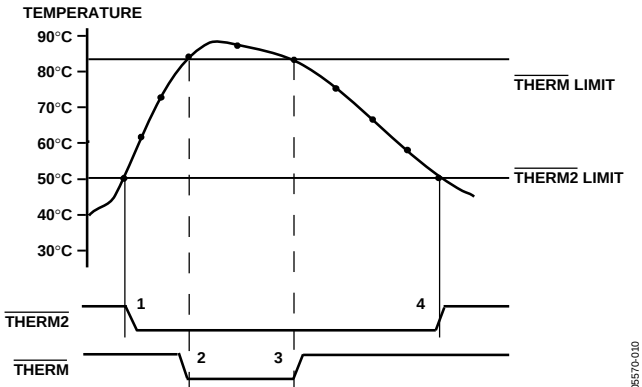

Figure 21. Operation of the  $\overline{\text{THERM}}$  and  $\overline{\text{THERM2}}$  Interrupts
Pin 13 on the ADT7483A can be configured as either an  $\overline{\text{ALERT}}$  output or as an additional  $\overline{\text{THERM}}$  output.  $\overline{\text{THERM2}}$  will assert low when the temperature exceeds the programmed local and/or remote high temperature limits. It is reset in the same manner as  $\overline{\text{THERM1}}$ , and it is not maskable. The programmed hysteresis value also applies to  $\overline{\text{THERM2}}$ . Figure 21 shows how  $\overline{\text{THERM}}$  and  $\overline{\text{THERM2}}$  might operate together to implement two methods of cooling the system. In this example, the  $\overline{\text{THERM2}}$  limits are set lower than the  $\overline{\text{THERM}}$  limits. The  $\overline{\text{THERM2}}$  output can be used to turn on a fan. If the temperature continues to rise and exceeds the  $\overline{\text{THERM}}$  limits, the  $\overline{\text{THERM}}$  output can provide additional cooling by throttling the CPU.
- The  $\overline{\text{THERM}}$  output deasserts (goes high) when the temperature falls to  $\overline{\text{THERM}}$  limit minus hysteresis. In Figure 21, there is no hysteresis value shown.